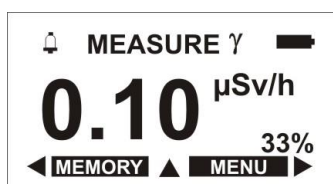

Figure 2.4
For checking workability it's necessary to close the filter 2 (Figure 1.1). Switch the instrument on according to the item 2.2.1. After switching on and termination of the checking process the instrument should enter the DER measurement mode "measurement γ ". The information should be displayed on LCD (Figure 2.4).
The instrument enters DER measurement mode automatically just after switching on, or purposely from "MENU". For that it is necessary to choose the "MEASUREMENT γ " line and press the "SELECT" button. Being in the DER mode the instrument displays on LCD continuously measured values the photon radiation DER in " $\mu\text{Sv/h}$ ", "mSv/h" and the statistical error of the measured DER in percentage, Figure 2.4.